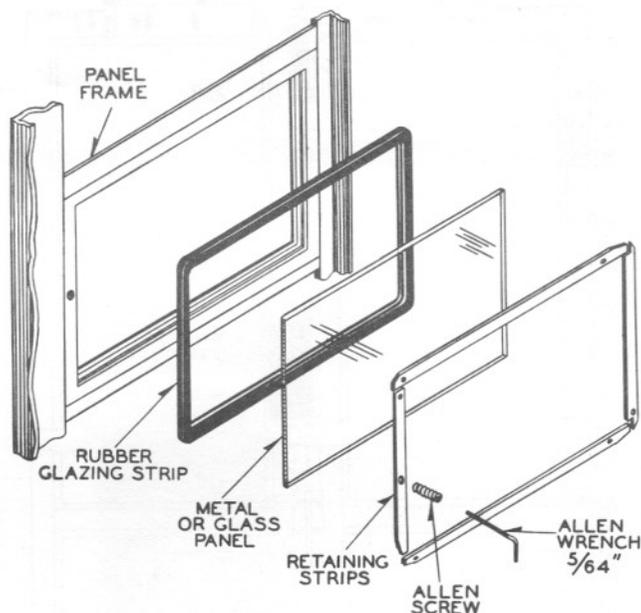

Fig. 4 — Panel Assembly
- Replace retaining strips in reverse sequence and tighten Allen screw (see Fig. 4).